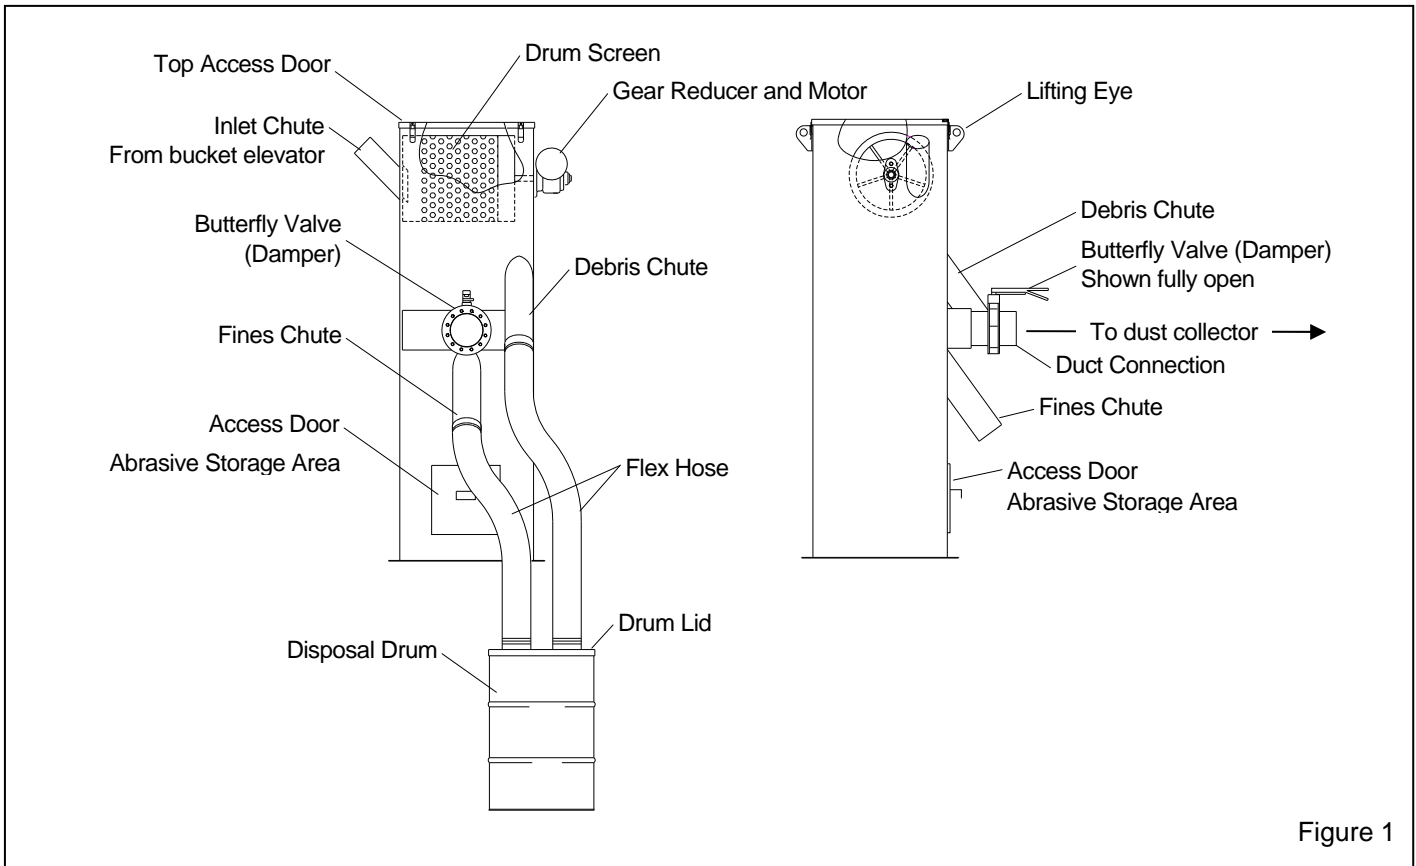

Figure 1
1.3.3 The abrasive cleaner is designed for heavy, continuous usage in industrial blast rooms. It removes oversized particles and fines from reusable abrasive. An integral storage area holds cleaned abrasive before it returns to the blast machine for reuse. The components of the abrasive cleaner are shown in Figure 1.